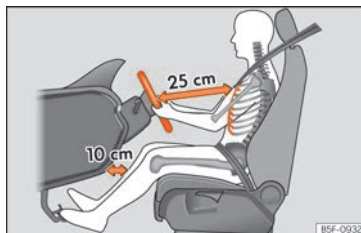

Fig. 85 The proper distance between driver and steering wheel.
»» Fig. 85.
- Adjust the driver's seat so that there is at least 25 cm distance between the centre of the chest and the centre of the steering wheel » **Fig. 85.** If distance is less than 25 cm, the airbag system may not protect you properly.